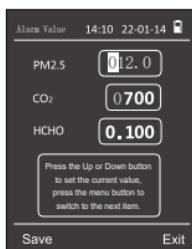

fig.22
d. Alarm Value: Set alarm limit for PM2.5, CO₂ or HCHO concentration (fig.22).